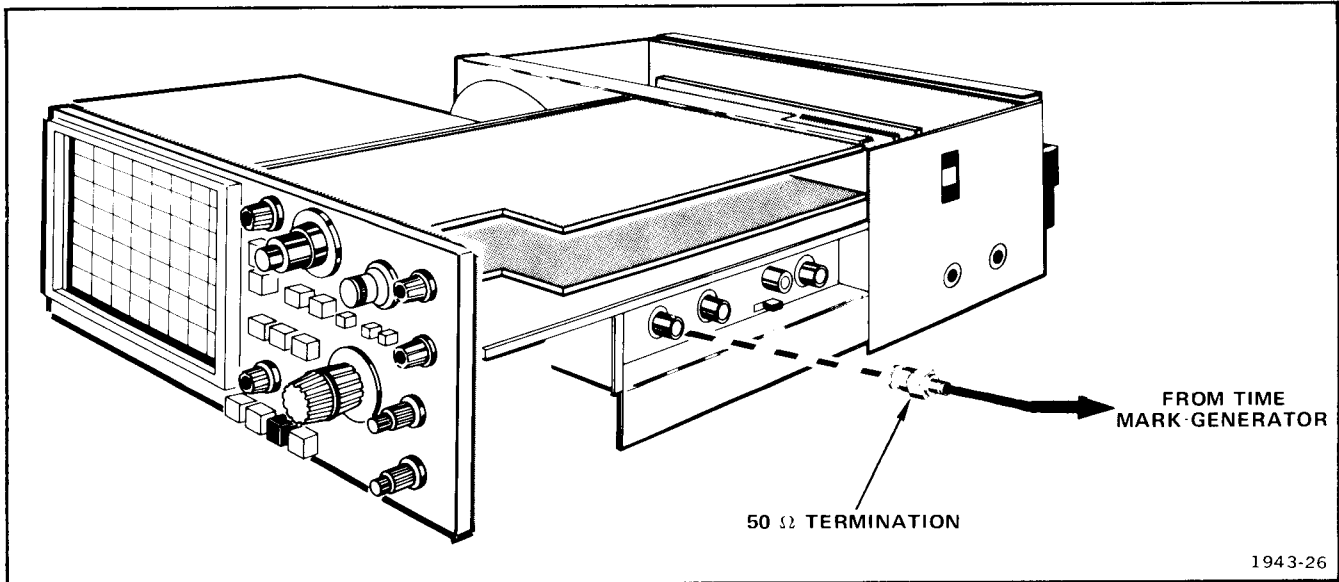

Fig. 6-14. Equipment setup.
- Connect equipment as shown in Fig. 6-14.
a. Reconnect time mark generator to CH 1 VERT INPUT (see Fig. 6-14).